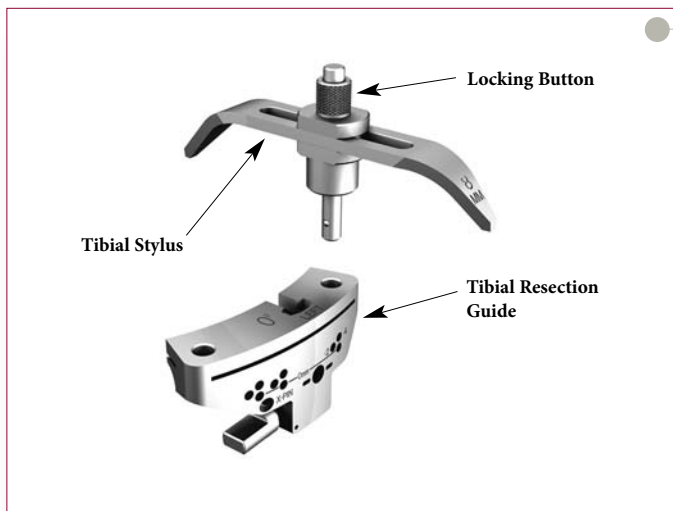

Figure 39
- ▶ Assemble the tibial stylus onto the Tibial Resection Guide by depressing the button on the top of the Tibial Stylus, inserting the stylus into either the medial or lateral holes on the top of the Tibial Resection Guide and releasing the button to lock the stylus into place (Figure 39).